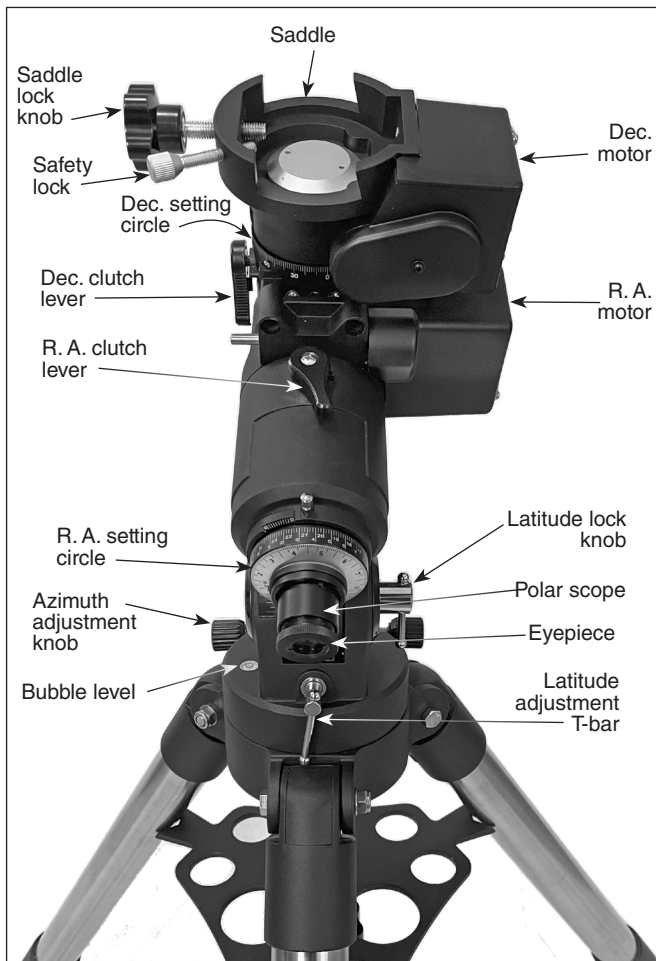
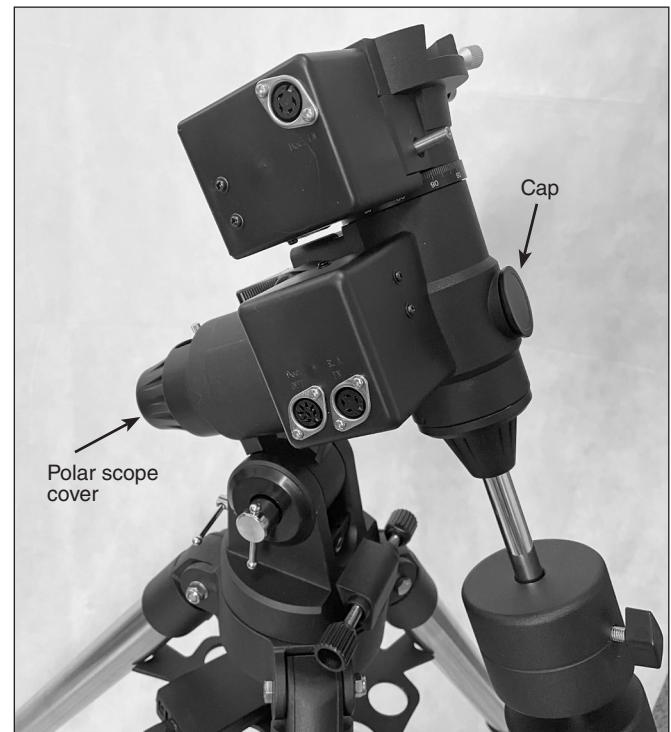

Figure 11. Close-up detail of the EQ-26 mount.
Figure 12. To use the polar scope, remove the polar scope cover and the cap on the front of the mount housing.
consistently steady images. The mount has a Vixen-style dovetail saddle (**Figure 11**), which accepts any telescope optical tube equipped with a Vixen-style dovetail bar or plate (not included).
2. Now loosen the saddle lock knob and safety lock knob to allow the dovetail plate to seat in the saddle without obstruction (**Figure 11**).
1. Unlock both the RA and Dec clutch levers (**Figure 11**) and rotate the telescope until both the telescope and the counterweight shaft are parallel to the ground.
1. Loosen the latitude clutch knob located on the right side of the mount (**Figure 11**) about a quarter turn.
2. Refer to the latitude scale and its pointer (**Figure 12**) as you turn the latitude adjustment T-bar clockwise or counterclockwise to set the R.A. axis elevation to your location’s latitude. For example, if your latitude is 35° North, set the pointer to 35. The latitude setting should not have to be adjusted again unless you move to a different viewing location some distance away.
The EQ-26 Mount comes with a polar axis finder scope (**Figure 11**) housed inside the RA housing of the mount. When properly aligned and used, it makes accurate polar alignment quick and easy to do.
Remove the cover at the rear of the mount’s RA housing and the cap on the front opening of the mount to view through the polar axis finder scope (**Figure 12**). Shine a red flashlight down the front end of the polar scope to illuminate the reticle, which is shown in **Figure 13**. Make sure the flashlight shines in at an angle, so as not to block the polar scope’s field of view. It may be helpful to have a friend hold the flashlight while you look through the polar finder. Too much light will wash out the view of Polaris and other stars, so it’s best to use dim red light. The reticle allows accurate polar alignment from either hemisphere. If the reticle graphic appears blurry, you can focus it by rotating the polar scope’s knurled eyepiece (see **Figure 11**).